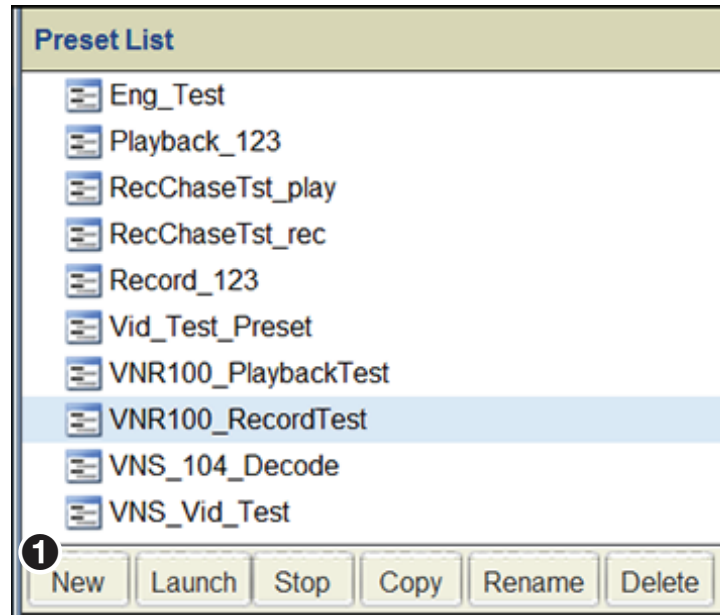

Figure 104. Presets, Using the VNS 104
1. Select **New** at the base of the **Preset List** panel to create a blank preset (see figure 104, ❶).